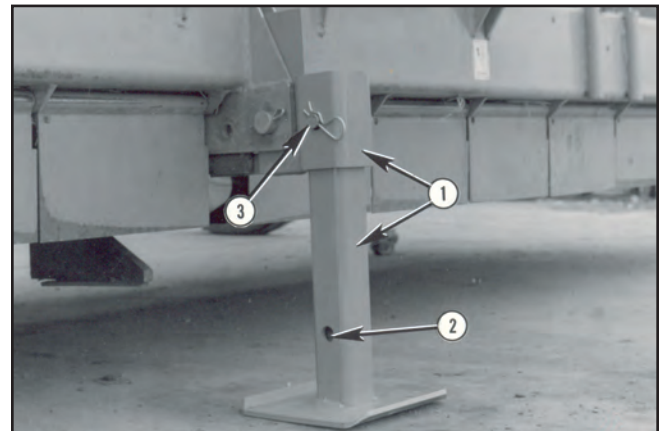

FIGURE 37 PHOTO NO. 3031A
Support stand assembly (1) is for hook up and machine storage. FOR SHREDDER OPERATION AND TRANSPORT, lower hole (2) for cross pin (3) is used. Refer to Figure 37.